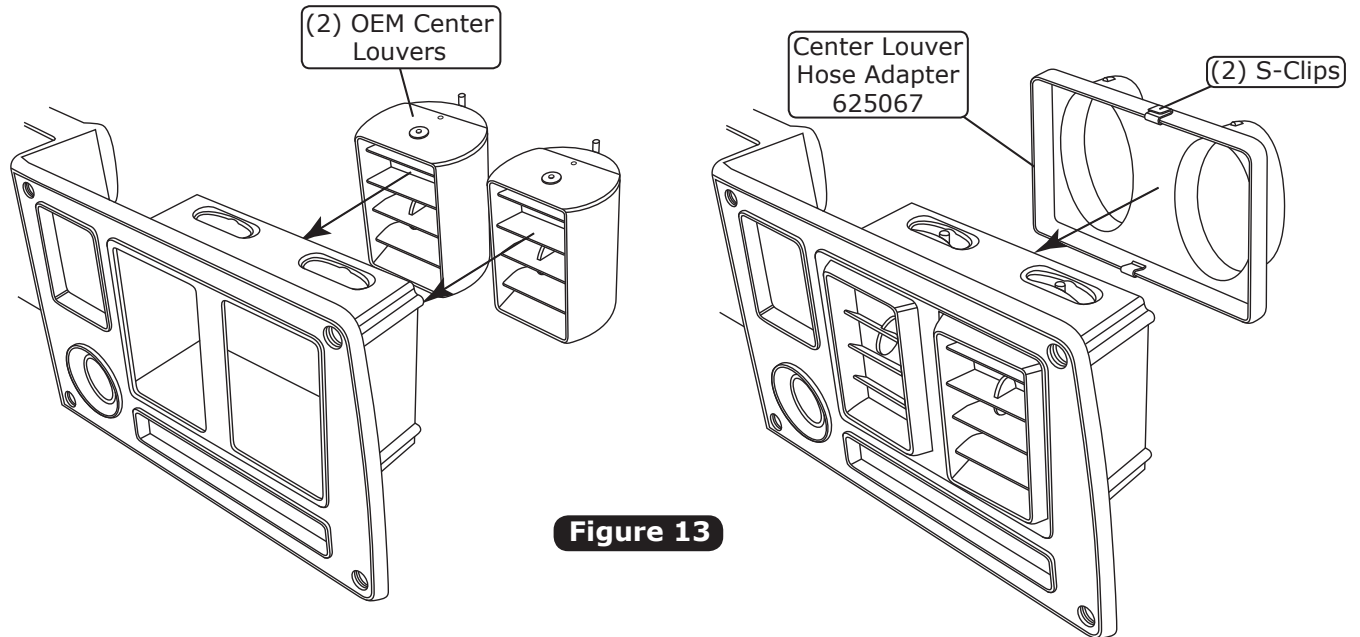

Figure 13
2. Install (2) OEM center louvers.
3. Install (2) S-clips onto the center louver hose adapter (See Figure 13, below).
4. Install the center louver hose adapter onto the center louvers as shown in Figure 13, below.